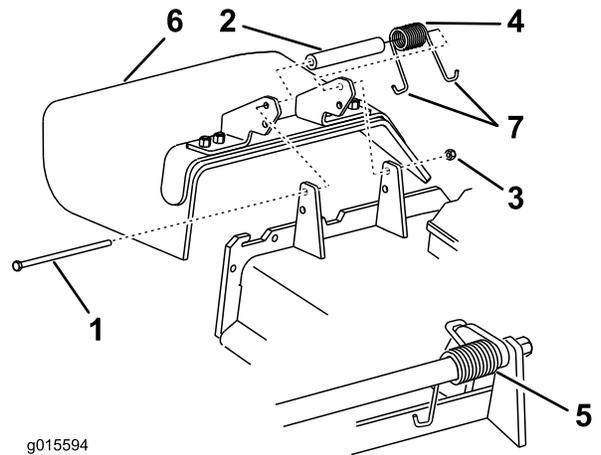

Figure 115
1. Remove the locknut, bolt, spring, and spacer holding the deflector to the pivot brackets (Figure 115).
2. Remove the damaged or worn grass deflector (Figure 115).
Note: Make sure that 1 J-hook end of the spring is installed behind the deck edge before installing the bolt as shown in Figure 115.
6. Place 1 J-hook end of the spring around the grass deflector (Figure 115).